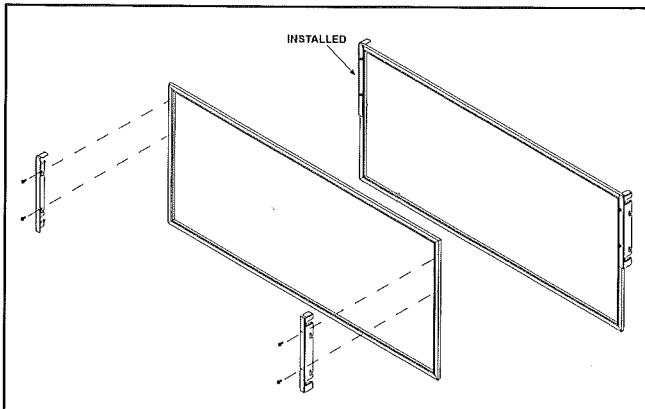

Figure 8. Install Mesh Bracket
2. Line up holes on mesh brackets with pilot holes on mesh. Install mesh brackets to Mesh panel with 4 screws included as shown in Figure 8.